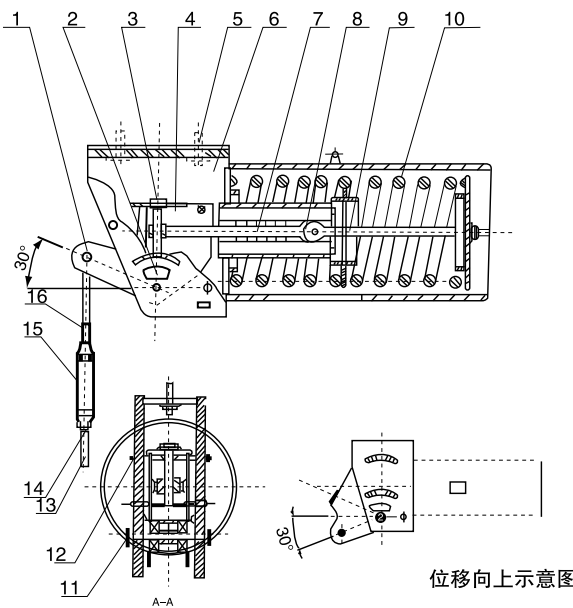

图1 恒力弹簧支吊架典型结构图
- 3.1 恒力弹簧支吊架主要由圆柱螺旋弹簧、固定框架、回转框架及运动机构、调节装置、弹簧罩等组成。其典型结构如图1。
3.1 The constant force spring support is composed of cylindrical helical spring, fixed frame, rotating frame and motion mechanism, adjusting device and spring cover. Its typical structure is shown in figure 1.